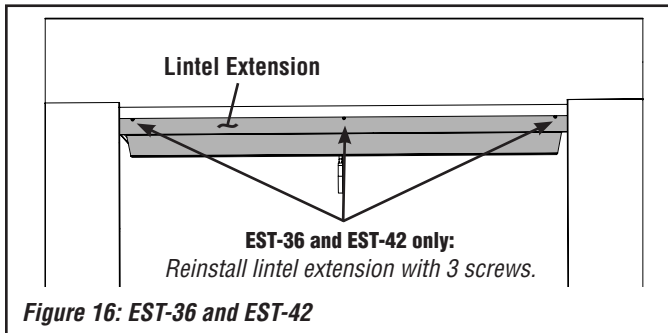

Figure 16: EST-36 and EST-42
- 10.1. Refer to **Figure 16, below**. Reinstall the lintel extension using the three (3) screws previously removed.